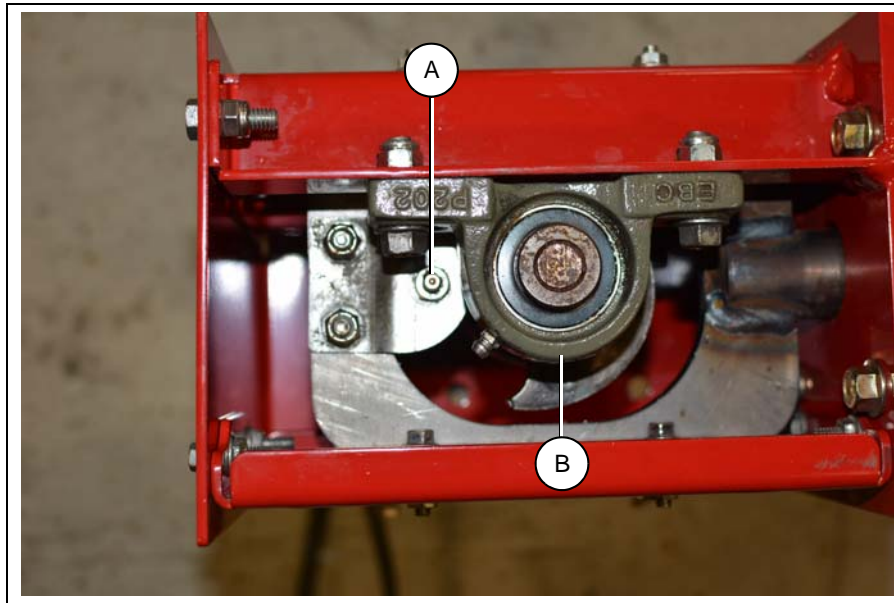
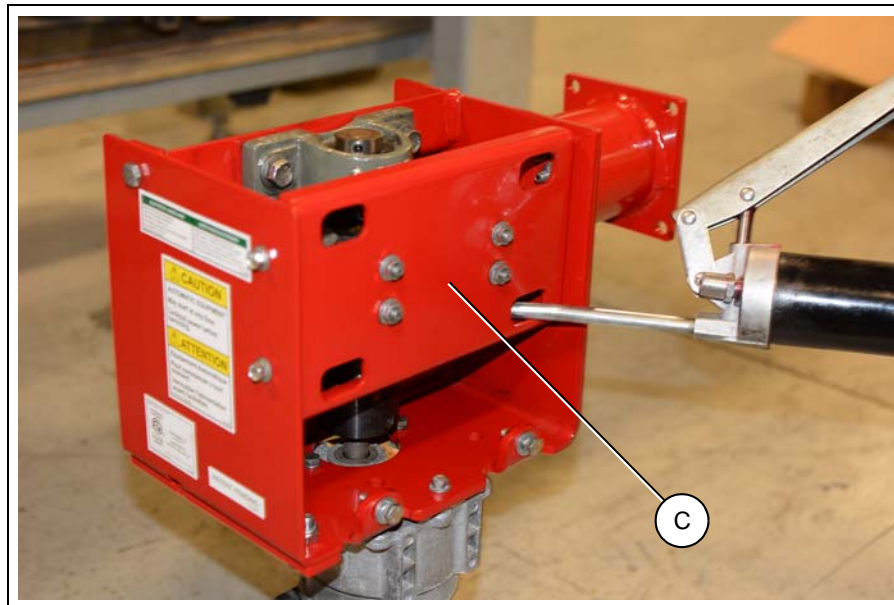

Figure 6A
Figure 6B
2. Use standard lithium based grease gun to grease the three (3) bearings. *(See Figure 6A and Figure 6B.)*